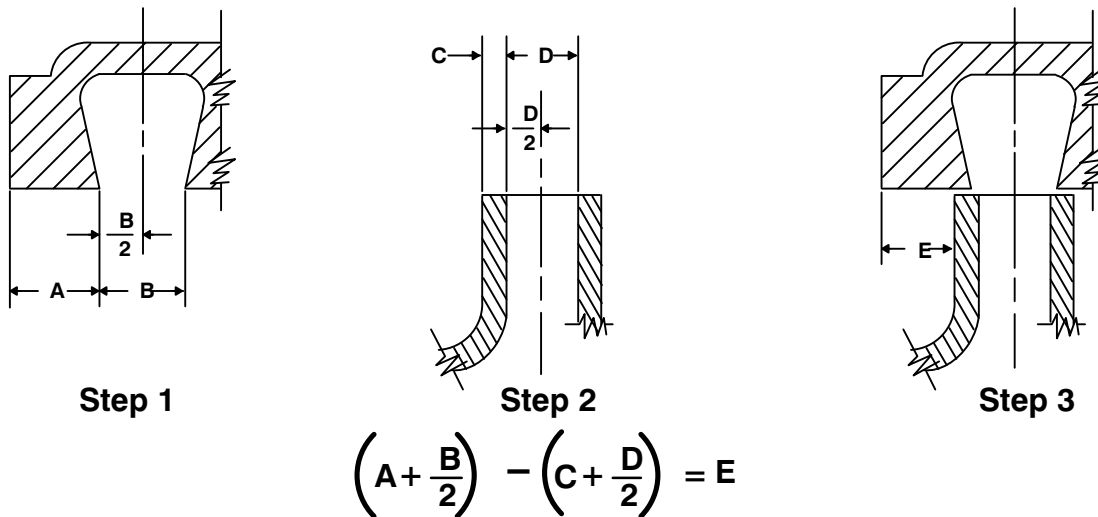

Figure 3. Centering Impeller Within Vane Plate
To verify the impeller positioning, measure the vane plate and impeller as shown in Figure 3. Use these measurements to calculate the required impeller location (dimension E). Add or remove impeller adjusting shims (16) until dimension E is obtained.